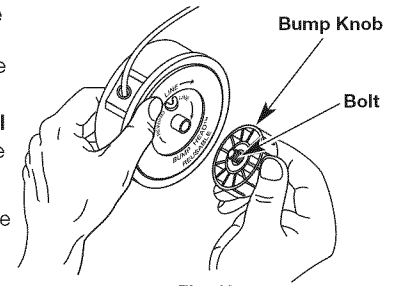

Fig. 13
1. Hold the outer spool with one hand and unscrew the bump knob counterclockwise (Fig. 13). Inspect the bolt inside the bump knob to make sure it moves freely. Replace the bump knob if damaged.